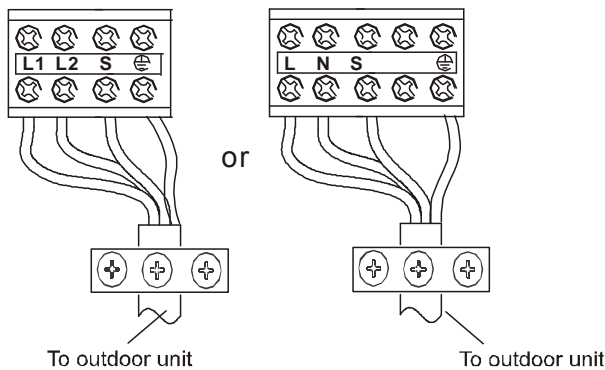

Figure 22B
4. Ensure the color of the wires of the outdoor unit and the terminal numbers are the same as the indoor unit's. Figure 22B.